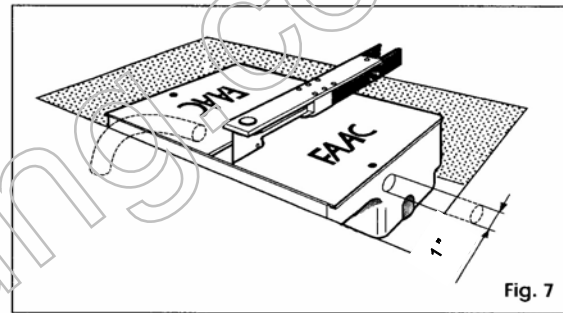

Fig. 7
- 3) Lay down a PVC tube of diameter 1-inch through which to pass a 4 core electrical cable. The tube must reach from the box the control unit. (fig 7). Lay a second tube to drain off water, from box to the nearest drain (fig. 7).